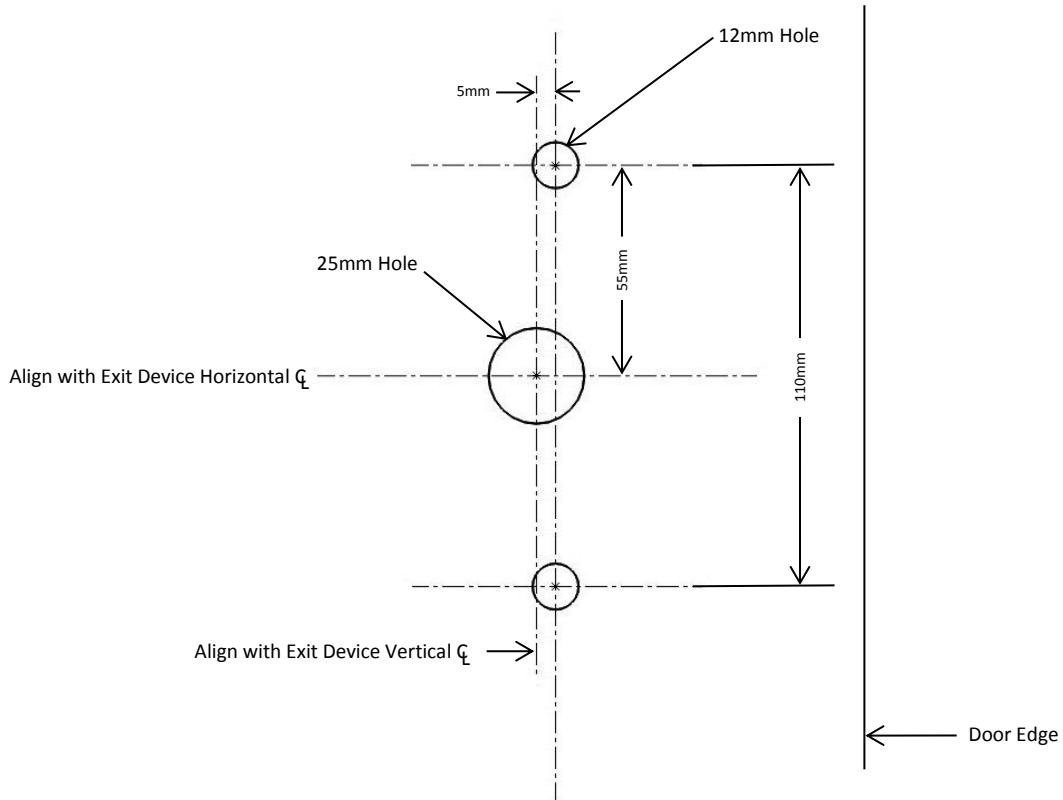

Figure 3
- 1) Using Figures 3, drill required holes for mounting.